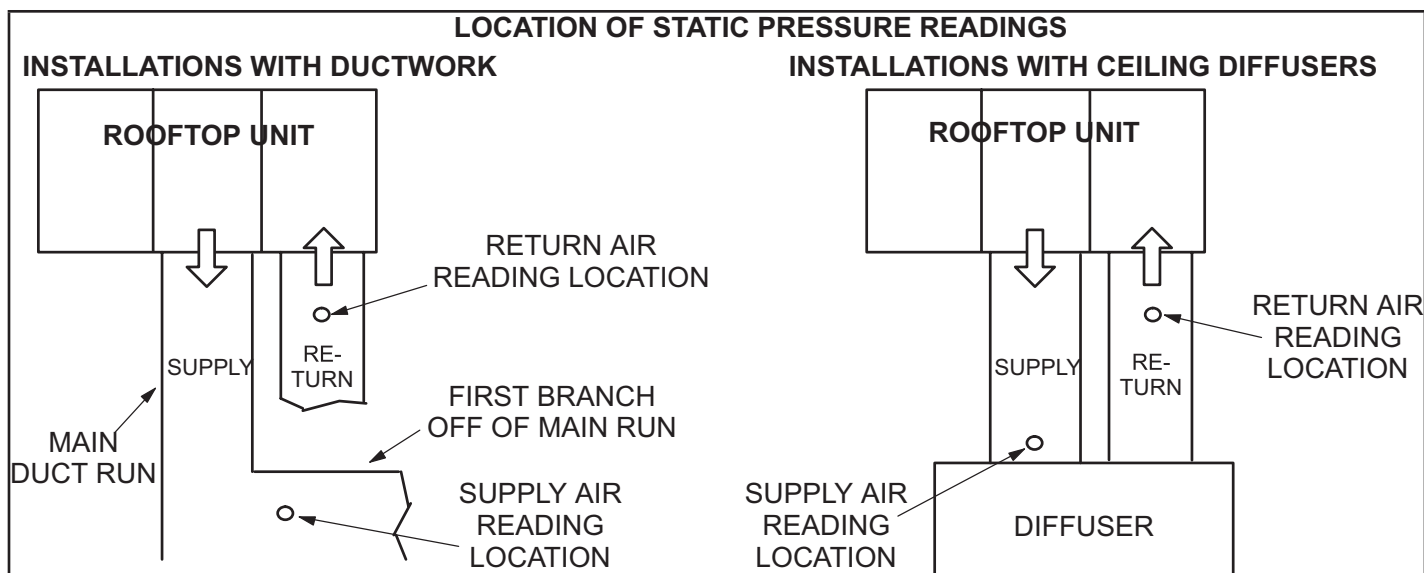

FIGURE 20
- 2 - With all access panels in place, measure static pressure external to unit (from supply to return). Blower performance data is based on static pressure readings taken in locations shown in FIGURE 20.